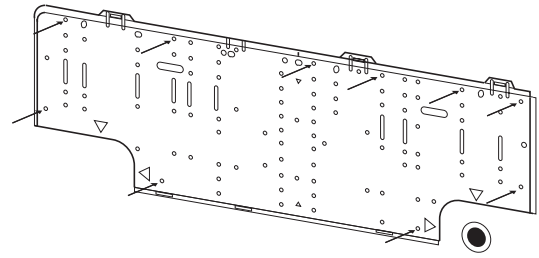

Fig. 1-70
- (1) Attach the rear panel to the wall with the 10 screws provided. (Fig. 1-70)